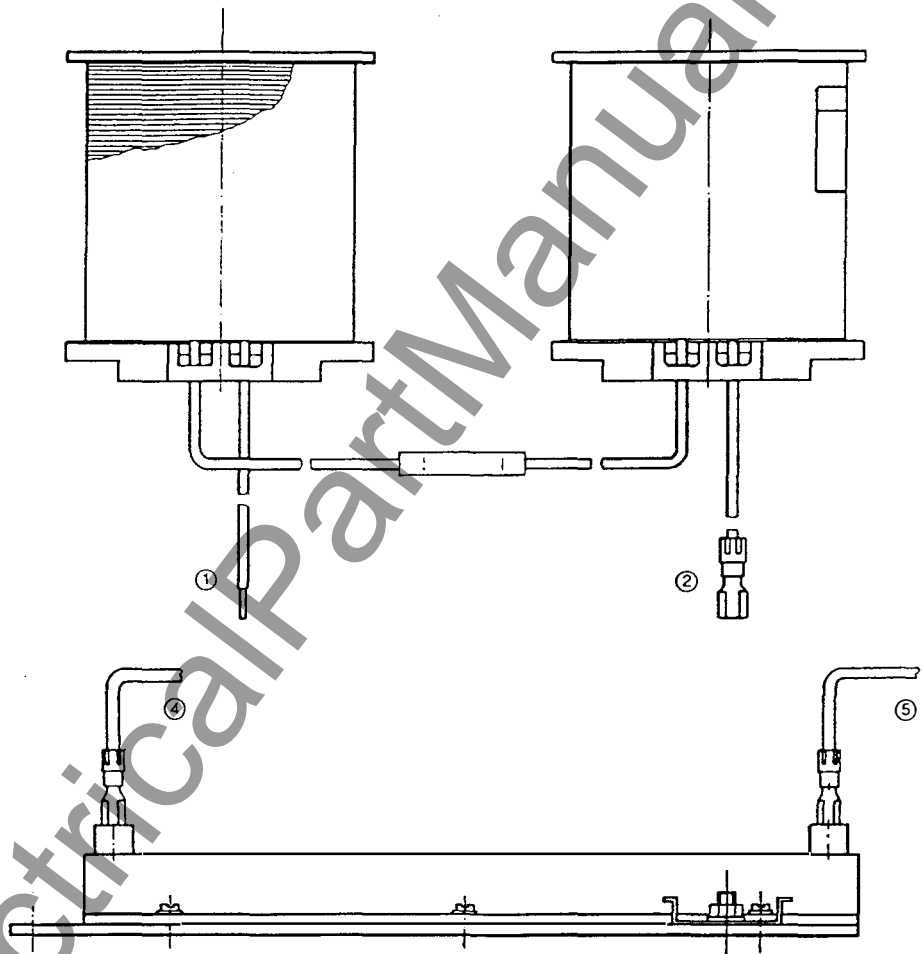
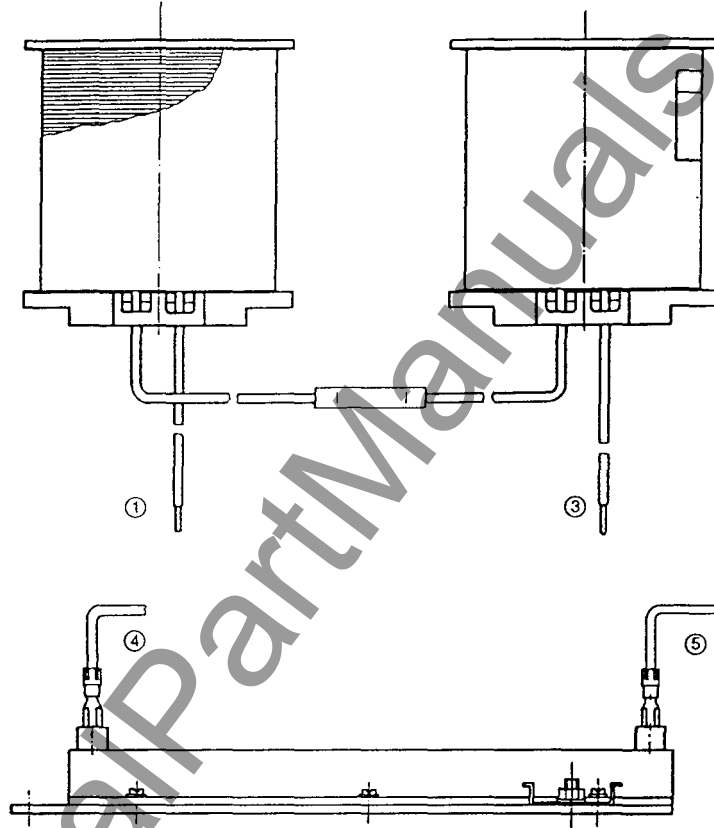

Fig. 10
Fig. 11
- Zuleitungen des Spulenpaares 8.1 (neu) und des Sparwiderstandes 11.1 (neu) entsprechend Fig.10 für Wechselstrombetätigung bzw. Fig.11 für Gleichstrombetätigung anschließen
- Reconnect the leads to the new pair of magnet coils 8.1 and to the new economy resistor 11.1 as follows and as shown in Fig.10 for AC operation and Fig.11 for DC operation
- Turn the auxiliary switch 10 (fig. 10) so that it engages in the mounting bracket (i.e. push rod of the auxiliary switch must mate with the guide) and secure in position